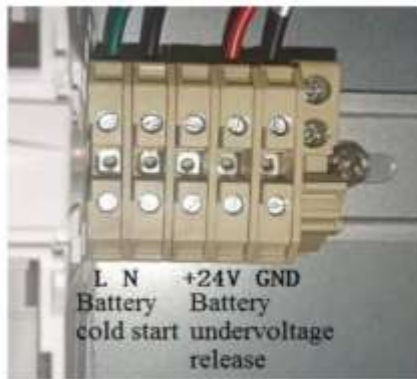

Fig. 3-38: Dry contact of this series (160-300kVA) Fig. 3-39: Dry contact of this series (400-500kVA)
8. Connect the dry contact; the dry contact terminal is under the inner door of the rectifier cabinet. The dry contact is shown in Fig. 3-38. Dry contacts “1” and “2” are the wiring terminal of battery cold start (⚠ Note: This terminal is strongly charged when the UPS is running, and “1” is the power line and “2” is the null line). Dry contacts “4” and “5” are the wiring terminal of the auxiliary contact of the maintenance bypass (option), and dry contacts “6” and “7” are the wiring terminal of the undervoltage release of the battery switch. Note: some products only have the dry contacts of battery cold start and battery undervoltage release. The location and port definition are subject to the silkscreen logo.
As shown in Fig. 3-38, the EPO input dry contact is the remote EPO input interface. UPS provides the emergency power off (EPO) function (EPO can be set to “interrupt output” and “convert to bypass”; the default mode is “transfer to bypass”). This function is realized through the remote contact provided by the user.